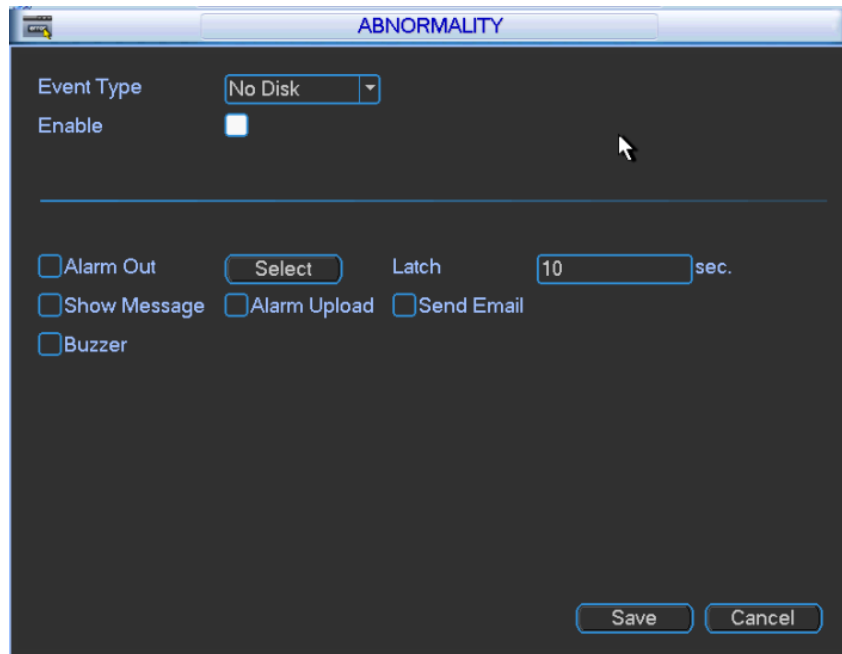

Figure 3-70
Step 1 In main menu, select “Advance > Abnormality”. The system displays “Abnormality” interface, as shown in Figure 3-70.